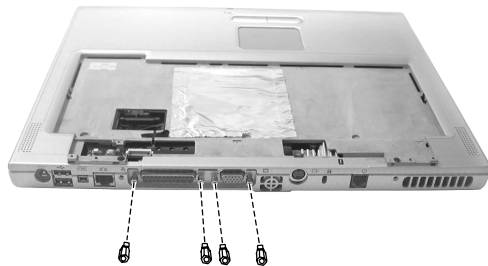

Figure 2-17 Remove the four hex nuts
2. Turn the four hex nuts to left to unscrew it completely. (Figure 2-17)